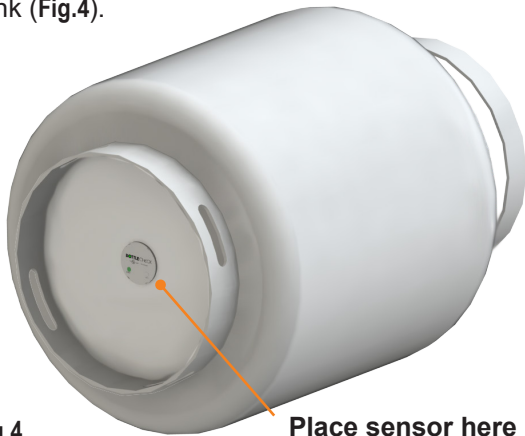

Fig.4
- Place the magnetic sensor on underside of the tank in the center. Tank removal may or may not be necessary depending on accessibility to the bottom (underside) of the tank (Fig.4).